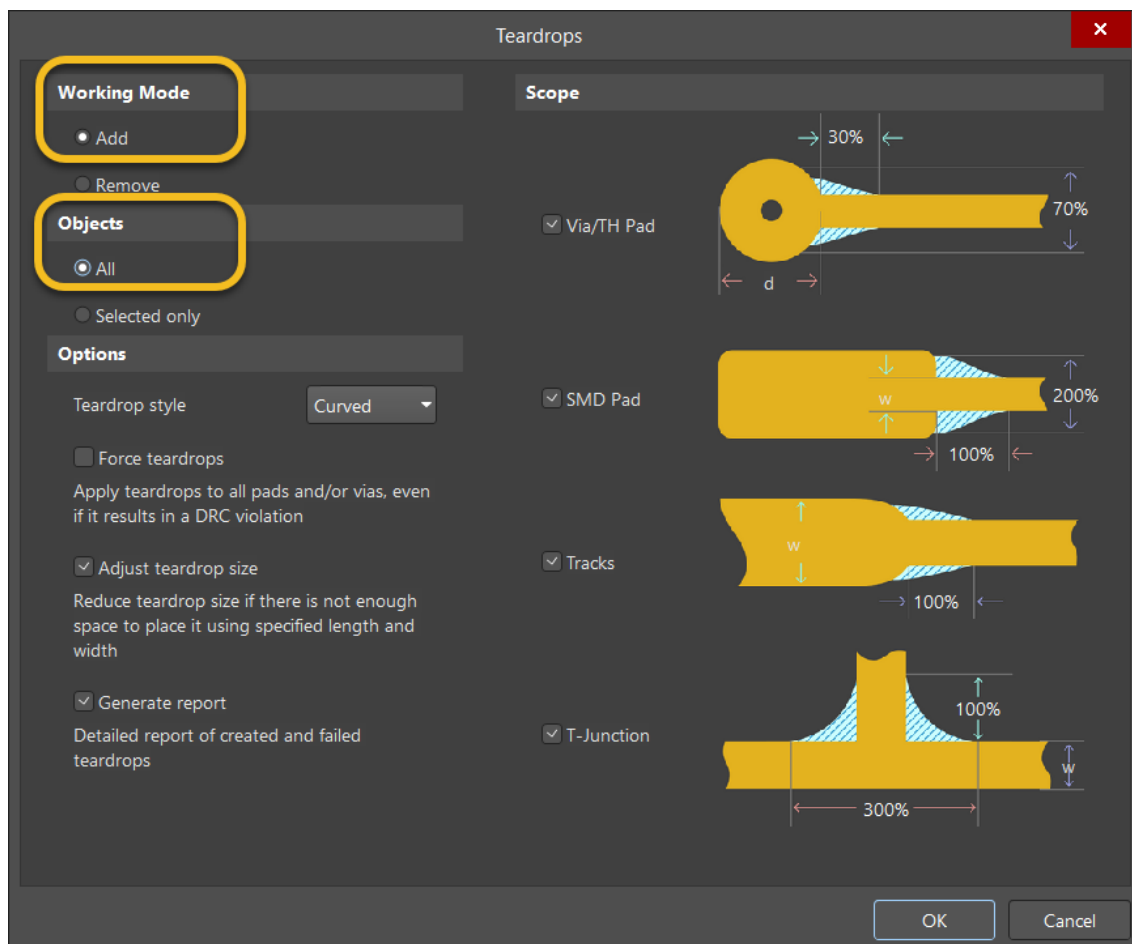

Figure 1. Teardrops dialog
10. Select **Tools » Teardrops** to open the Teardrops dialog, as show in Figure 1 below.